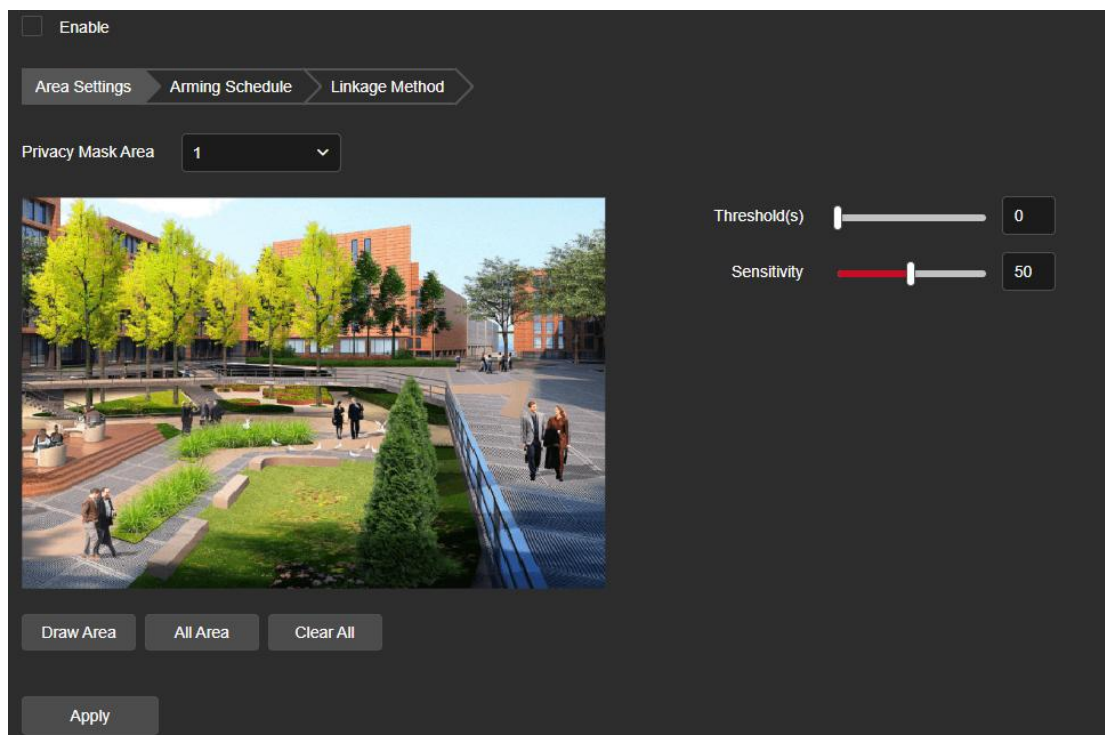

Figure 8-6-61
Step 1: On the main interface, click "Configuration → Event → Smart Event → Fireworks Detection" to enter the fireworks detection configuration interface, as shown in Figure 8-6-61.